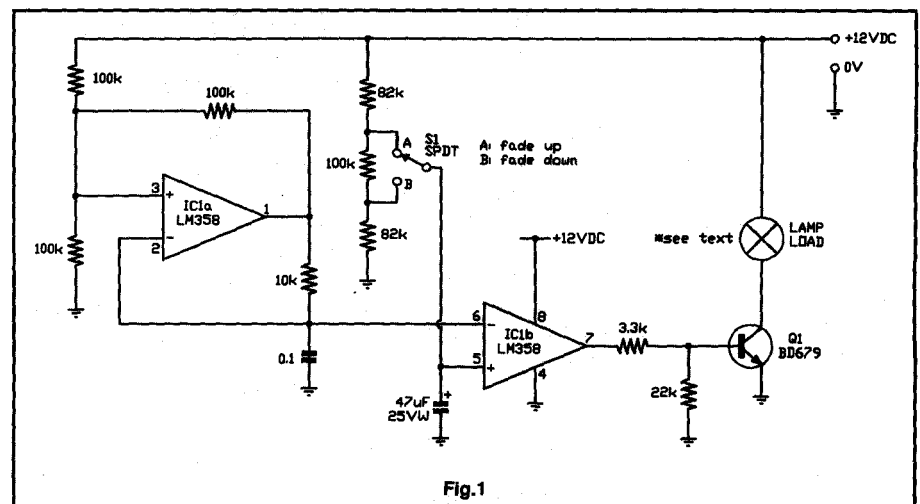

Fig.1
B.F. had tried using some AC circuit theory, using zero crossing detectors and other circuits, but found that the project was becoming too complicated. A crude but practical answer to his problems is the circuit shown in Fig.1. It's a low voltage auto-dimmer using some of the switching theory we've covered in previous issues, and it should work quite well.
Looking at the circuit in Fig.1, it's based around a common LM358 dual
way this particular circuit works, the peaks of the waveform droop a little. Now the reason for this lies in the way the capacitor is charged up. If we look just at the oscillator in Fig.1, the capacitor is charged and discharged through the output of IC1a via a resistor. Let's consider the capacitor's progress as it charges up.
Looking back at Fig.1, the ramp signal from IC1a is connected to the inverting input of IC1b, and this is configured as a comparator. On the other input, we have a simple resistor/capacitor arrangement controlled by a switch. This is a single-pole double-throw (SPDT) switch, which will control the lights. With the switch in the 'A' position, the capacitor charges up and in the 'B' position, the capacitor discharges.